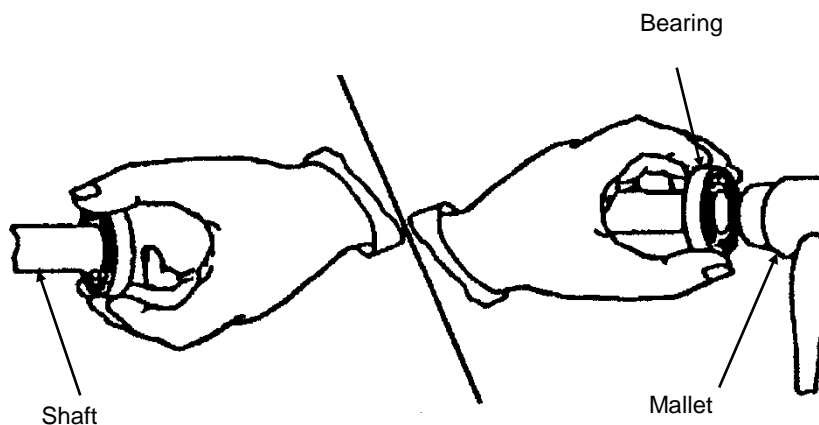

FIG 9.
- B. Align the bearing with the shaft and initially fit it by hand. (Fig 9)
- C. Check that the bearing is square with the shaft. A soft mallet may be used if necessary. (Fig 9)